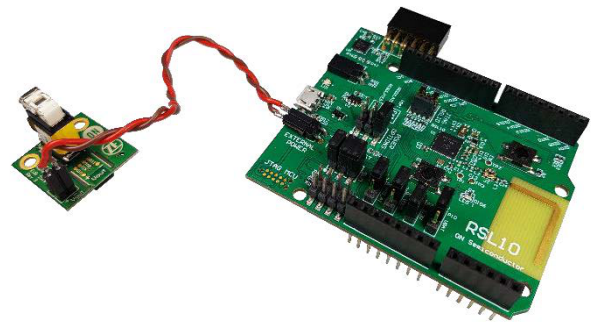

Figure 12. Switch Reference Design with Connected RSL10 Development Board
Caution: When reducing the size of the device (as described below) certain functionalities of the reference design will no longer be possible (e.g., reprogramming the Bluetooth Low Energy device (see Figures 6 and 7), or using the harvester power source for powering another board (see Figure 12))
- Use the switch as a harvesting-based power supply for an external MCU board like the RSL10 development board. To use the switch reference design in that way, resistor R3 needs to be removed to cut the power to the on-board RSL10 chip. The output voltage is connected to the header and test-points labeled as Vout on the top of the board. The output voltage is clamped at 3.3 V. If the RSL10 development board is used as an external MCU board as shown in Figure 12, the same firmware as for the harvesting switch itself can be flashed as it uses the same RSL10 chip. Using the evaluation board enables additional connectivity to more sensors, Analog inputs,